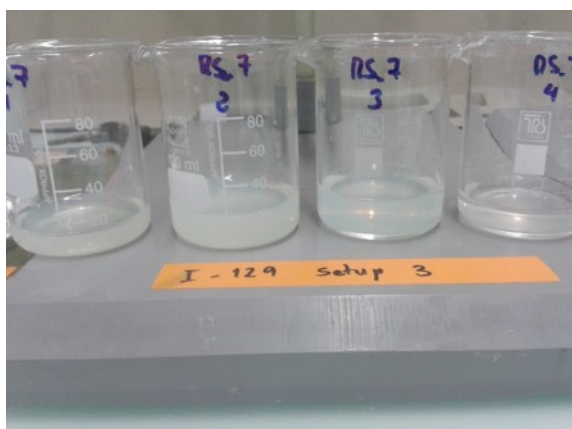

Figure 2: Collection of the different fractions of iodine from seawater. Solutions contain AgI precipitates.
- c. Extract Iodide (Figure 2).